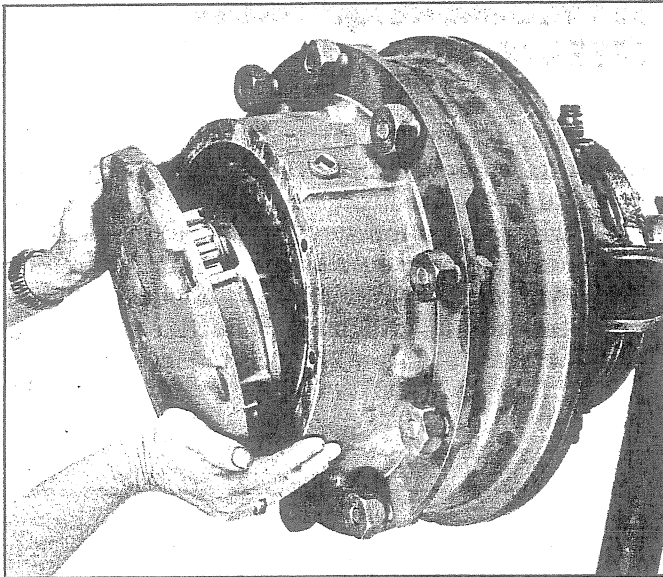

Fig. 78 - Removing Planetary Assembly
3. Remove planetary assembly as shown in Fig. 78. Refer to heading "Servicing Planetary Assembly" for service procedures.